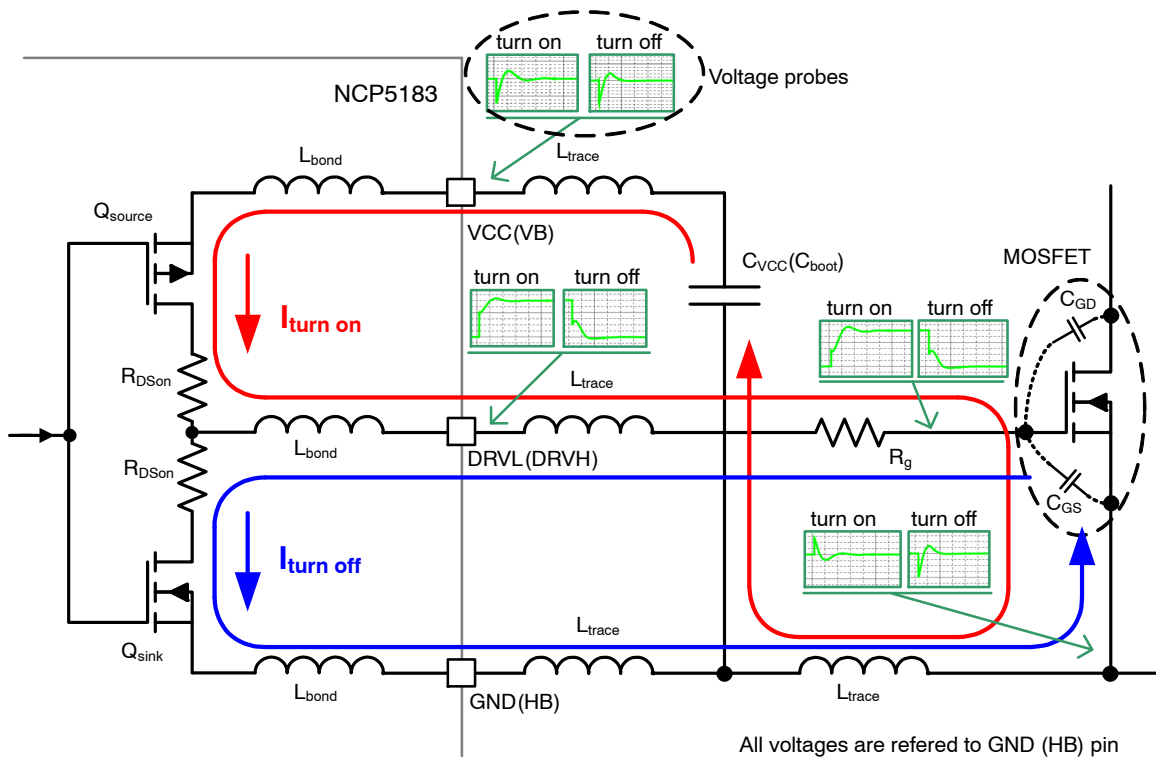

Figure 27. Equivalent Circuit of Power Switch Driver
A capacitor connected from VCC (VB) to GND (HB) terminal is source of energy for charging the gate terminal of an external MOSFET(s). For better understanding of this process see Figure 27 (all voltages are related to GND (HB) pin). When there is a request from internal logic to turn on the external MOSFET, then the Q_{source} is turned on. The current starts to flow from C_{VCC} (C_{boot}), through Q_{source}, gate resistor R_g to the gate terminal of the external MOSFET (depicted by red line). The current loop is closed from external MOSFET source terminal back to the C_{VCC} (C_{boot}) capacitor. After a while the C_{GS} capacitance is fully charged so no current flows this path. When the external MOSFET going to be turned off, the internal Q_{source} is turned off first
and after a short dead time Q_{sink} is turned on. Then C_{VCC} (C_{boot}) is not a source any more, the source of energy became the C_{GS} (and all capacitance connected to this terminal, like Muller capacitance). Now the current flows from gate terminal, through R_g resistor and Q_{sink} back to the MOSFET (depicted by blue line). In both cases (charging and discharging external MOSFET) there are several parasitic inductances in the path. All of them play a role during switching. In Figure 27 an influence of the inductances in some places is showed. On VCC (VB) pin a drop during turn on and turn off is observed. If too long an UVLO protection can be triggered and the driver can be turned off subsequently, which result in improper operation of the application.